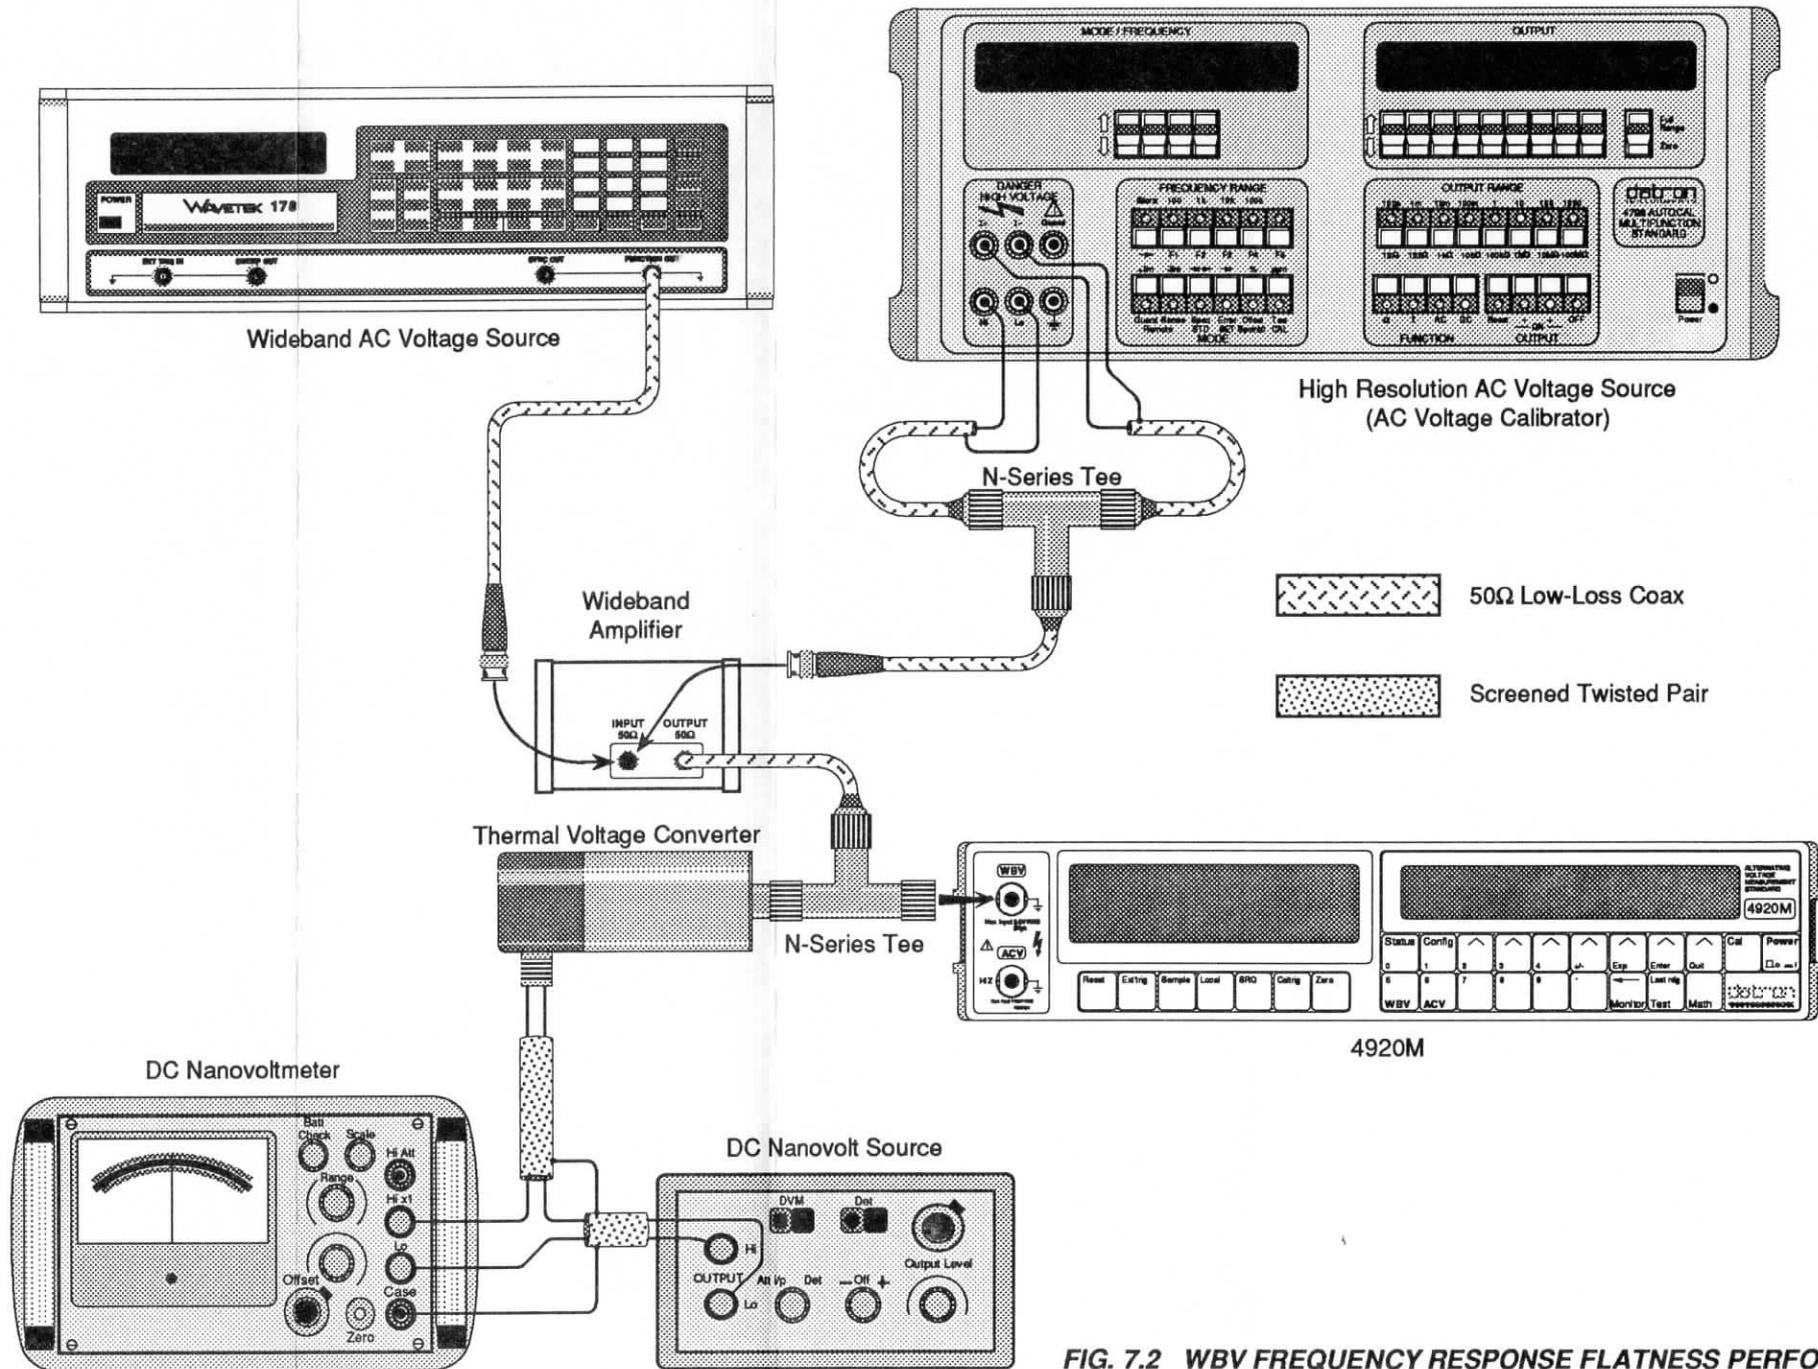

FIG. 7.2 WBV FREQUENCY RESPONSE FLATNESS PERFORMANCE VERIFICATION - INTERCONNECTIONS
2. Connect the wideband AC voltage source and wideband amplifier to the 4920M and thermal voltage converter as shown in Figure 7.2, and select the 4920M's WBV function.
8. Connect the high resolution AC voltage source (AC calibrator) to the input of the wideband amplifier as shown in Figure 7.2.